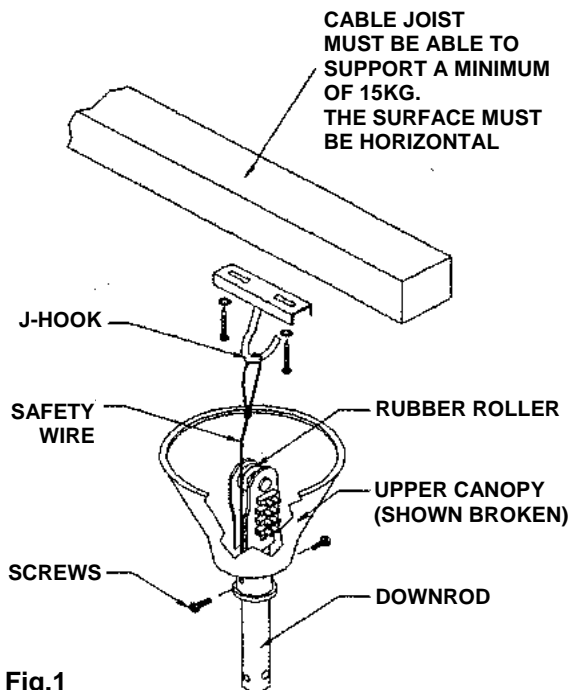

Fig.1
2.2 Fix the ceiling J-hook (supplied) firmly to a timber joint or concrete ceiling with the screws supplied (or similar). **Ensure that the fixing bracket in the ceiling is able to support a hanging weight of 15kg minimum.** (Fig 1)